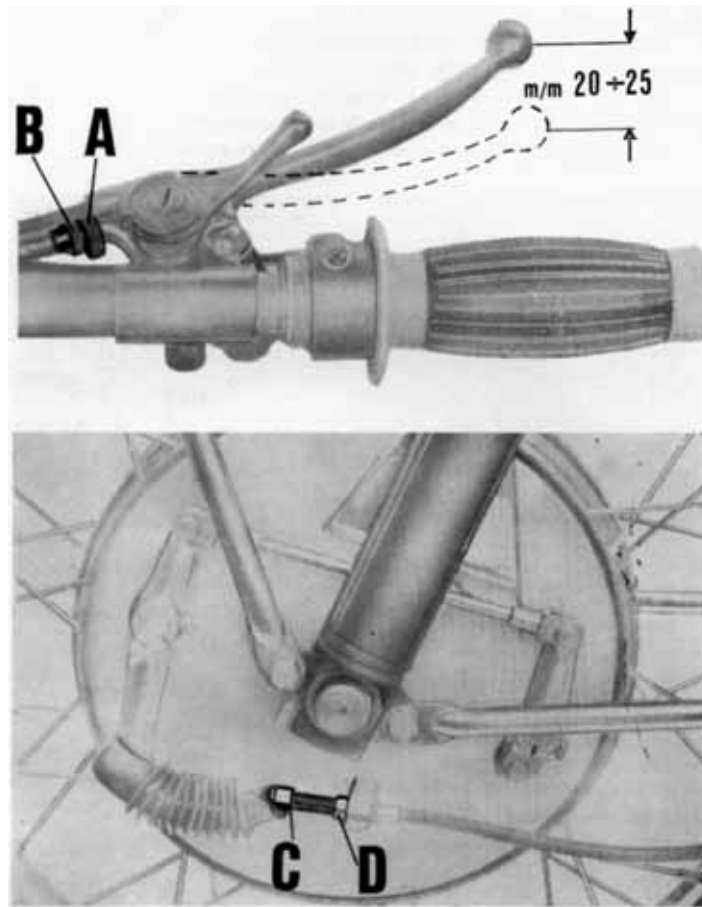

Fig. 23
**Front brake lever (See fig. 23)**